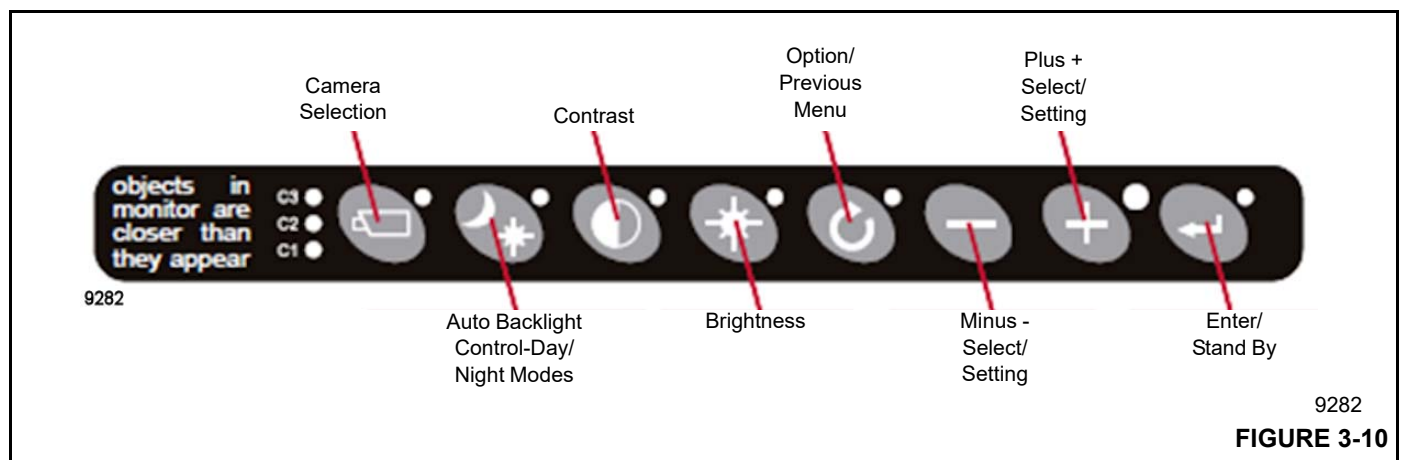

FIGURE 3-10
1. Press the camera select button (Figure 3-10).